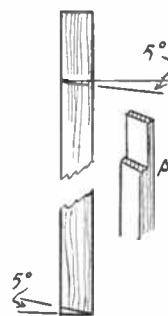

Fig. 2
For the legs, cut four from 1in. by 1 $\frac{1}{2}$ in. wood to length. These have to be paired as they splay slightly outwards. The parts of the legs contacting the sides of the tray to which they are to be screwed, should be cut away to half thickness, as at (A) in Fig. 2. The shoulders here should not be sawn square across but at an angle of 5 degrees as in the drawing, to effect the splay. Deal with each pair of legs separately, and note that the direction of angular cut should be opposite with each pair. A moment's thought on the reader's part will make the need for this quite clear, the legs splaying in opposite directions.